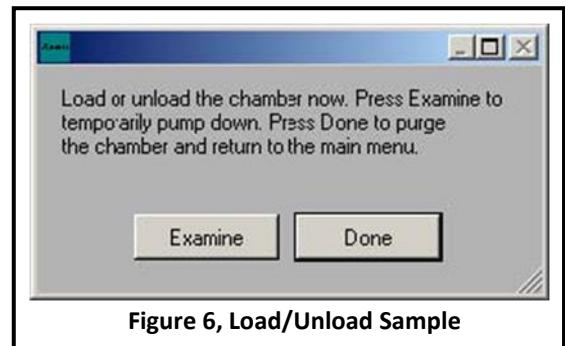

Figure 6, Load/Unload Sample
6.3.4 Open the chamber lid when the dialogue box comes up. See *Figure 6, Load/Unload Sample*.
6.4.1 Press the Done button. See *Figure 6*.